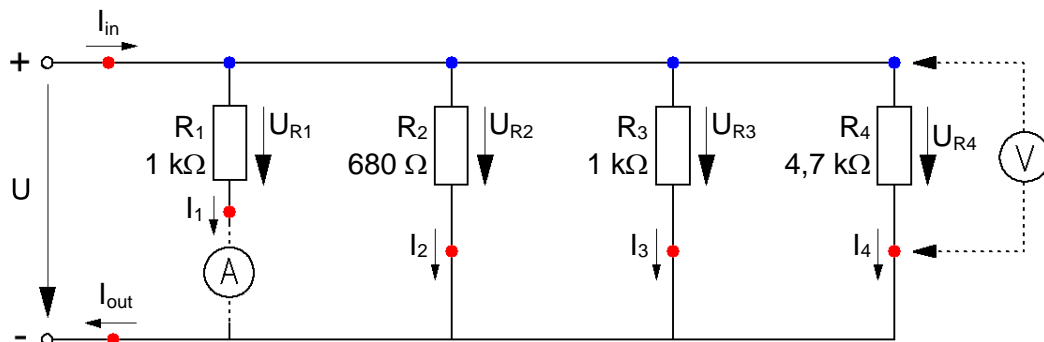

Fig. 3.2.2.1: Measurements on the parallel circuit
- Assemble the exercise circuit on the Board (Fig. 3.2.2.1).